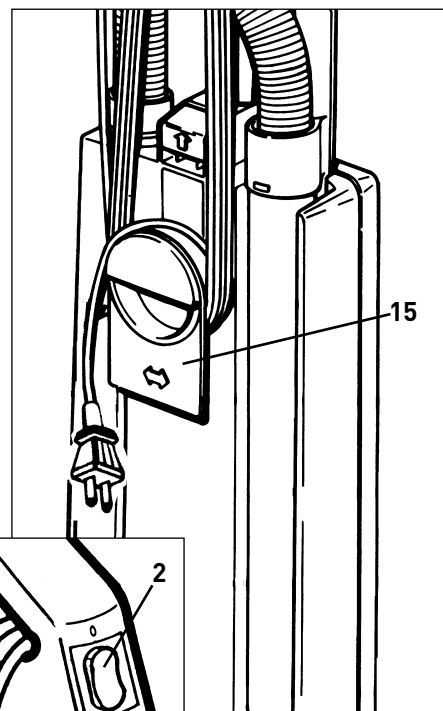

Figure 1
Starting The Machine - Figures 1 & 2
1. Turn the quick release cable hook (#15, figure 1) to the up position by moving it to the left or right.